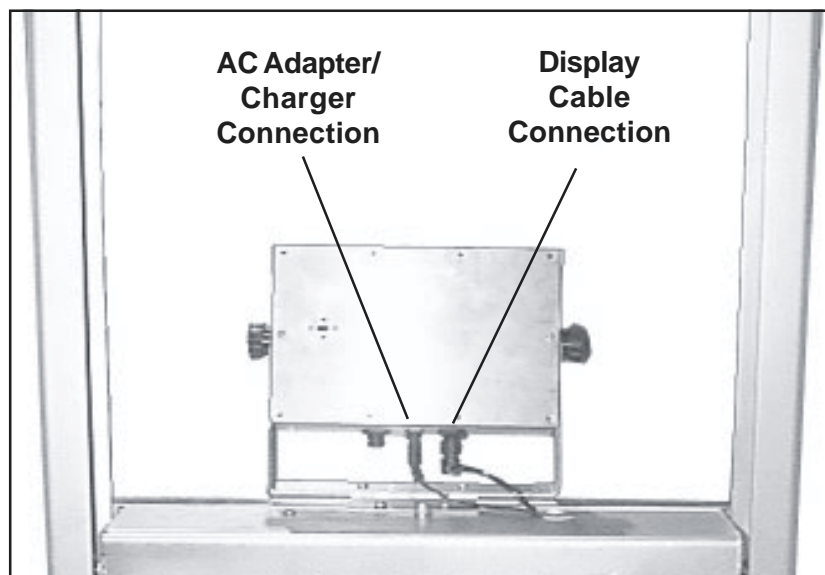

Figure 50. Cable Connections on Scale Display Console
1. Unplug the display cable from the bottom of the display console (Figure 50).
4. Plug the display cable into the its terminal on the display console (Figure 50).
4. Plug the AC adapter/charger cable (if used) into the its terminal on the display console (Figure 50).